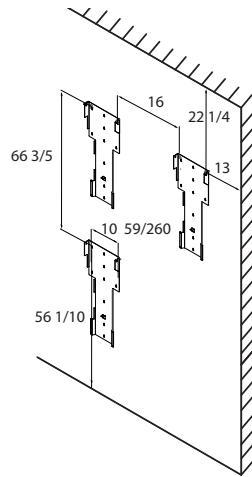

Figure 5: Mounting plate for wall mounting with minimum clearances (inches) (PSD)
- Minimum clearance during installation: see Figure 5 and Figure 8 on page 16.
NOTICE: The minimum clearances between two inverters, or the inverter and the ceiling/floor have already been taken into account in the drawing.(Figure 5 and Figure 6 on page 16)